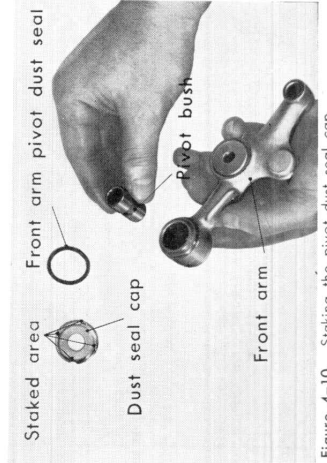

Figure 4-10. Staking the pivot dust seal cap
- (1) Remove the front wheel in accordance with section 4.4a.
- (2) Remove the 6 mm lock pin and 7 mm lock nut, and then the front cushion joint washer and the joint rubber A can both be removed. Next, by removing the front arm pivot bolt, and 8mm X 42, hex bolt the front cushion and the front suspension arm may be removed together from the front fork.
- (3) Remove the 8 mm hex nut and then by pulling out the 8 mm hex bolt, the front arm rebound stopper may be removed from the front fork.
- (4) By removing the 8 mm hex nut and the front cushion lower bolt; the front cushion and the front suspension arm may be separated.
- b. Remove the pivot dust seal by unlocking the staking and remove the dust seal and pivot collar. (Fig. 4-10)
- (5) The front cushion disassembly can be performed by removing the front cushion lock nut and then removing the front cushion spring.